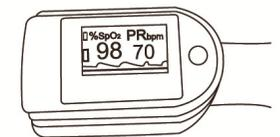

Figure 5 Put finger in position
1. The finger should be placed properly (see the attached illustration of this manual, Figure 5), or else it may cause inaccurate measurement.
- 2) Open the clip as shown in Figure 5.